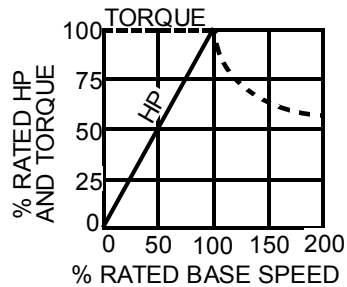

Figure 30: Motor Armature Voltage Control and Field Control
B. Field Controlled DC Drives - Another characteristic of a shunt-wound DC motor is that a reduction in field voltage to less than the design rating results in an increase in speed for a given armature voltage. It is important to note, however, that this results in a higher armature current for a given motor load. A simple method of accomplishing this is by inserting a resistor in series with the field voltage source. This may be useful for achieving an ideal motor speed for the application. An optional, more sophisticated method uses a variable voltage field regulator. This provides coordinated automatic armature and field voltage control for extended speed range in constant HP applications. The motor is armature voltage controlled for constant torque-variable HP operation to base speed. It is then transferred to field control for constant HP-variable torque operation to maximum speed. This is illustrated in Figure 30.